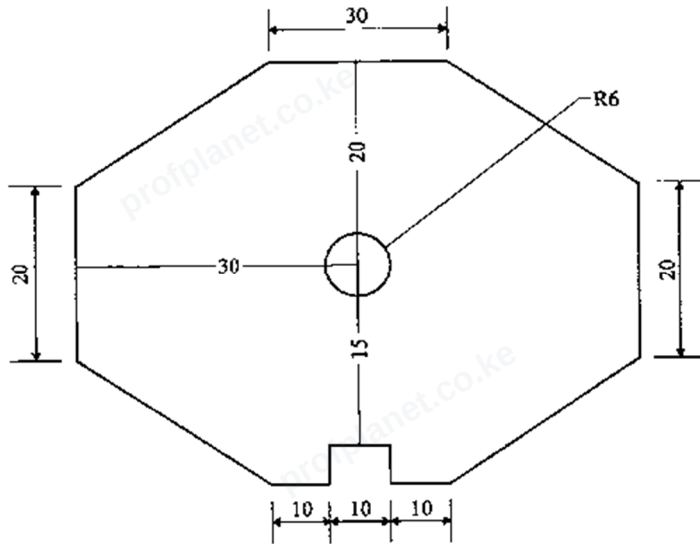

Figure 1
12. Figure 1 shows the view of a template, (20 Marks)